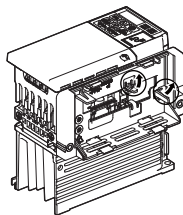

Figure 23 Removing the Mounting Attachment
3. Remove the mounting attachment by pressing two tabs in the direction of arrows as shown in Figure 23.